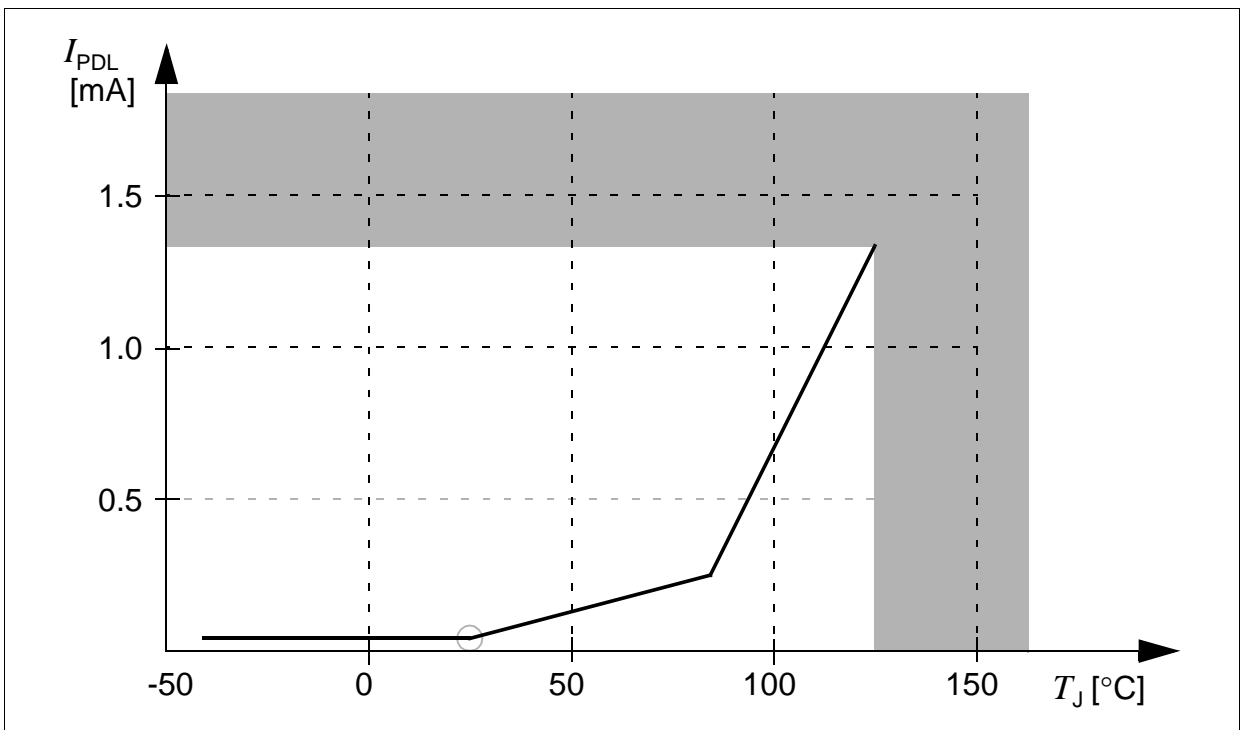

Figure 4-3 Sleep and Power Down Leakage Supply Current as a Function of Temperature
- 5) This parameter is determined mainly by the transistor leakage currents. This current heavily depends on the junction temperature (see Figure 4-3). The junction temperature T_J is the same as the ambient temperature T_A if no current flows through the port output drivers. Otherwise, the resulting temperature difference must be taken into account.